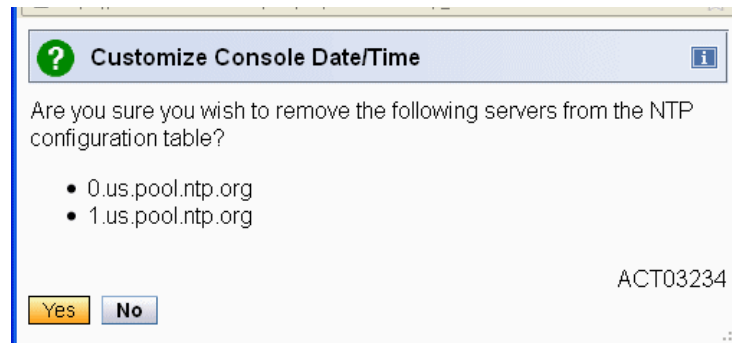

Figure 1-25 Message ACT03234 - Removal confirmation
2. Selecting **Remove NTP Server** displays a confirmation window (Figure 1-25).